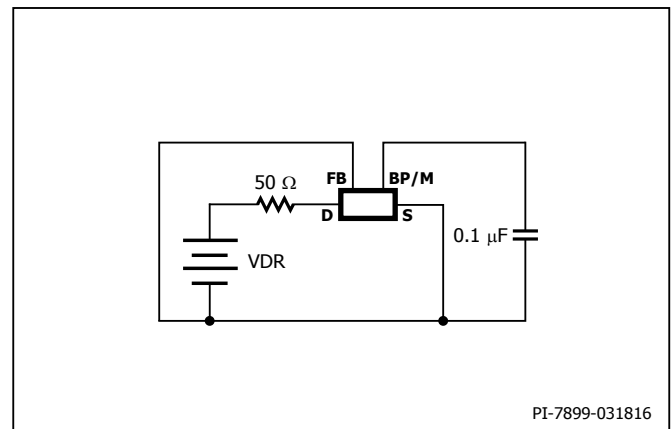

Figure 12. LinkSwitch-TN2 Minimum On-Time Test Circuit.
- I. Measured using circuit in Figure 12 with 50  $\Omega$  drain pull-up. The width of the drain pulse is measured as the time from  $V_{FALL} = 42$  V to  $V_{RISE} = 40$  V (VDR = 50 V), for LNK32x6/x5/x4 and as the time from  $V_{FALL} = 32$  V to  $V_{RISE} = 30$  V on rising edge (VDR = 35 V), for LNK3202.